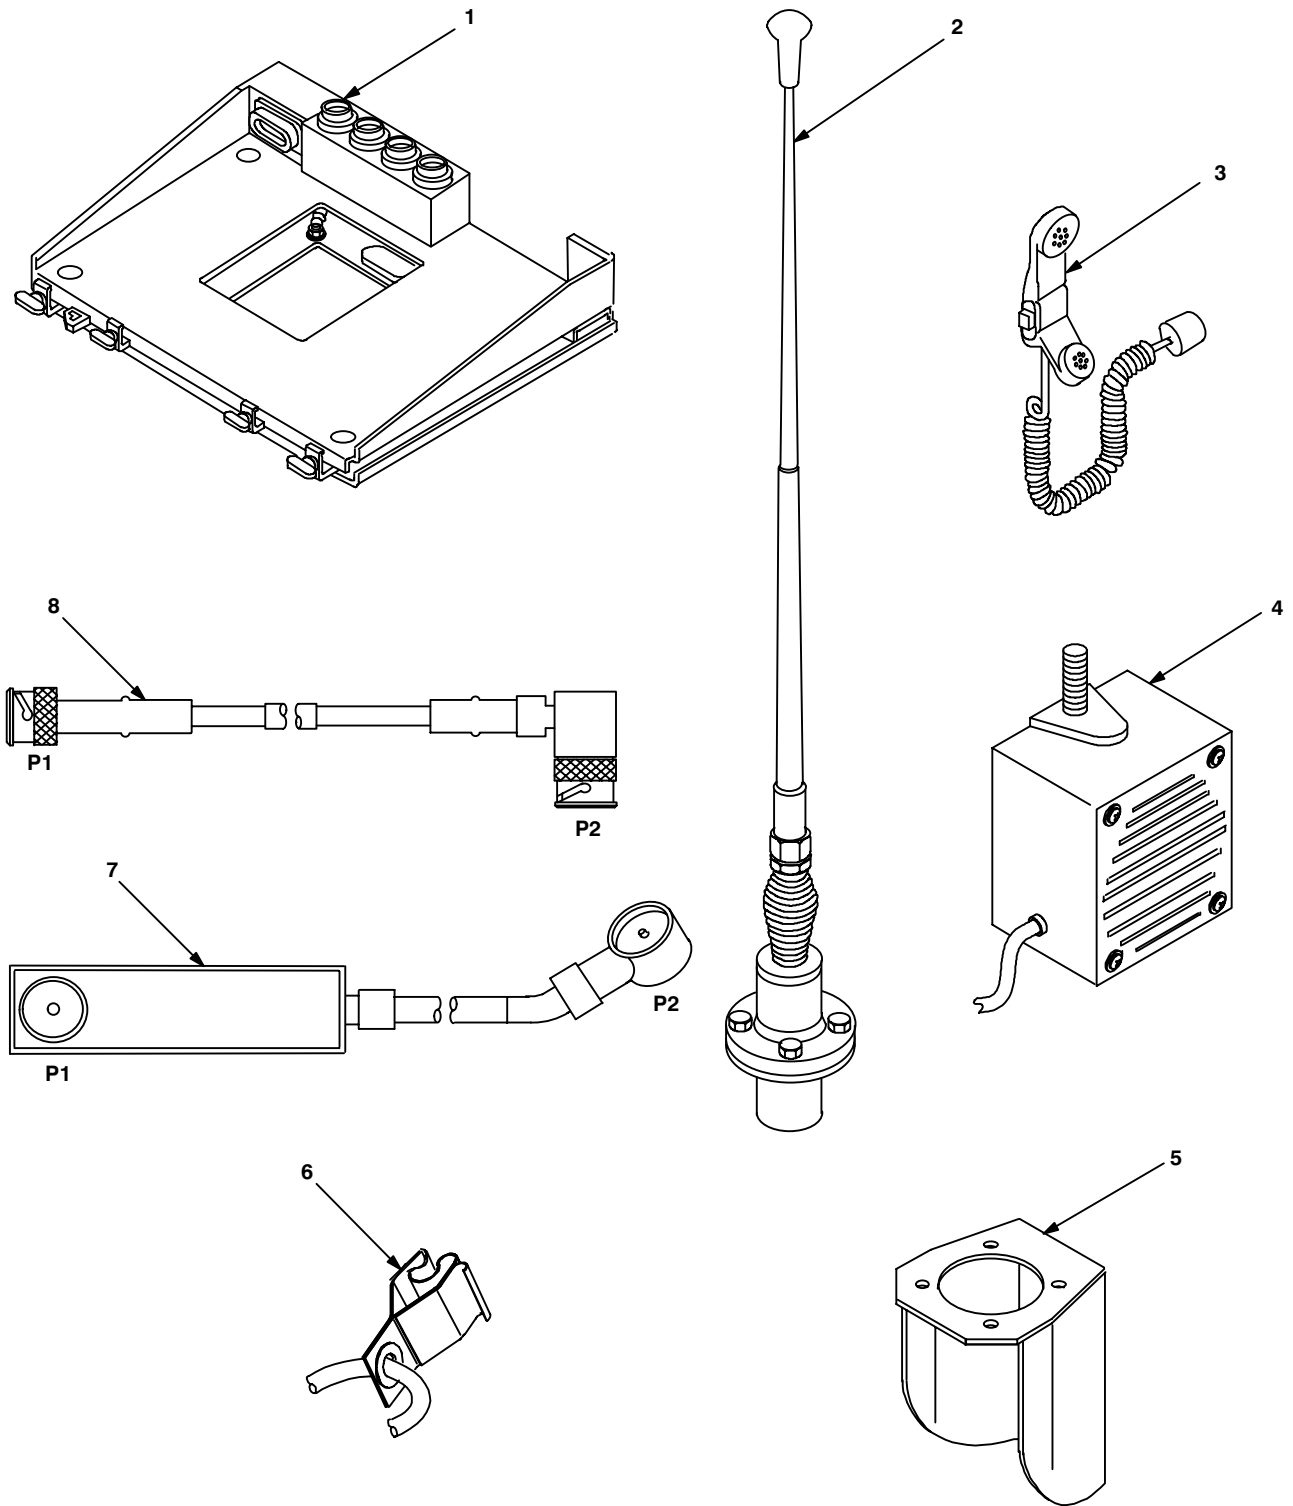
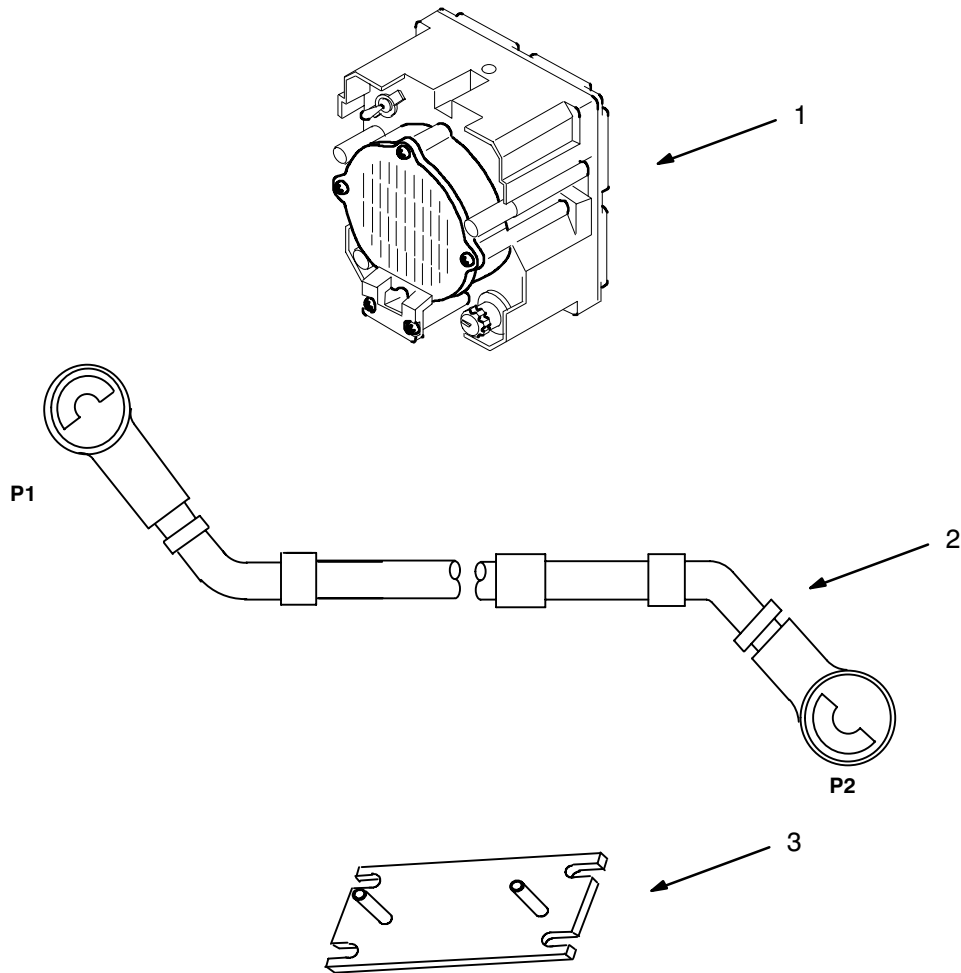

Figure 4-1. MK Illustrated Parts List
Figure 4-2. Illustrated Parts List for Table 4-2
4.3.1 Items Supplied in MK and/or Required for Installation. Use Table 4-1 and figure 4-1 to identify and inventory MK parts supplied to install Radio Set AN/VRC-87/88/90 Series. Refer to Table 4-2 and figure 4-2 to identify additional items required to install for "D" and "F" Series Radio Sets.